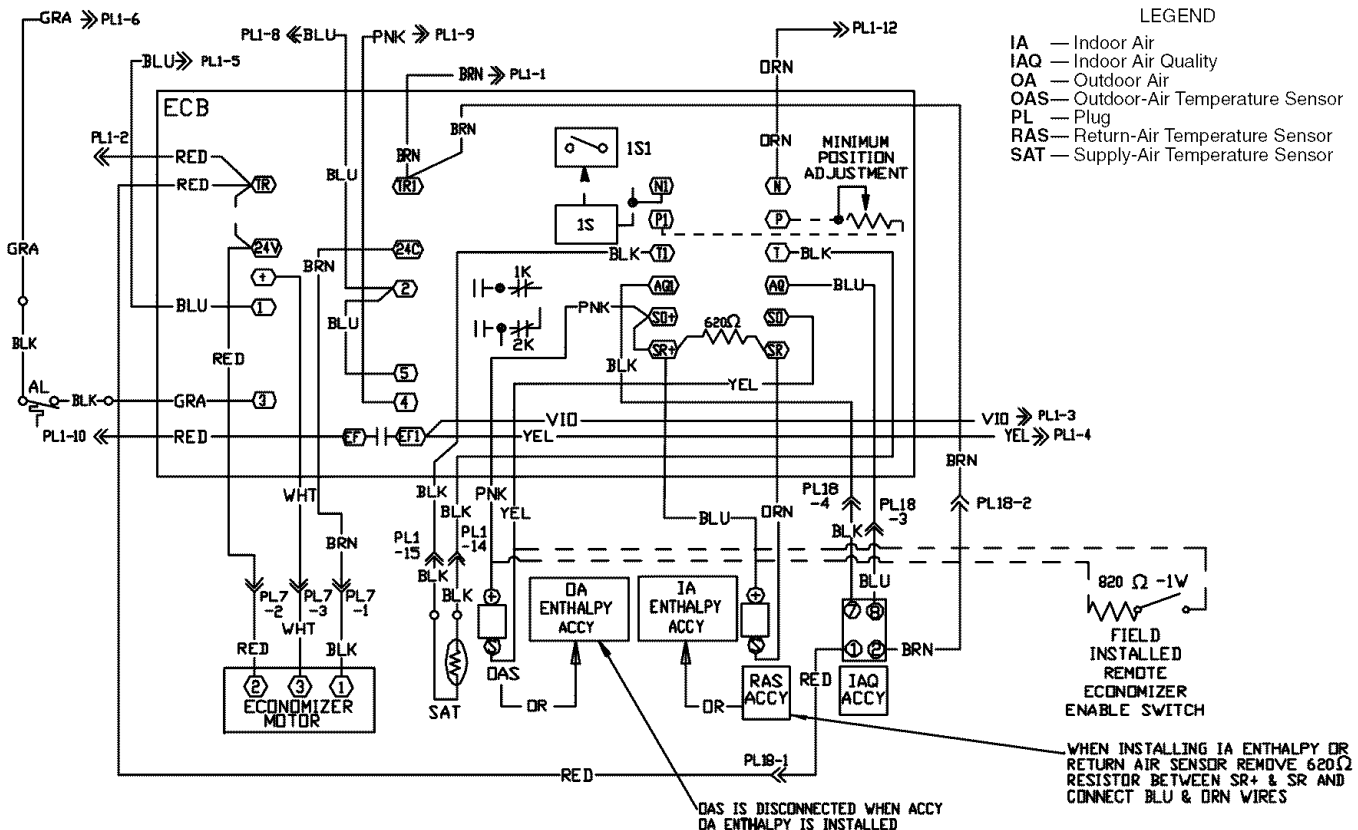
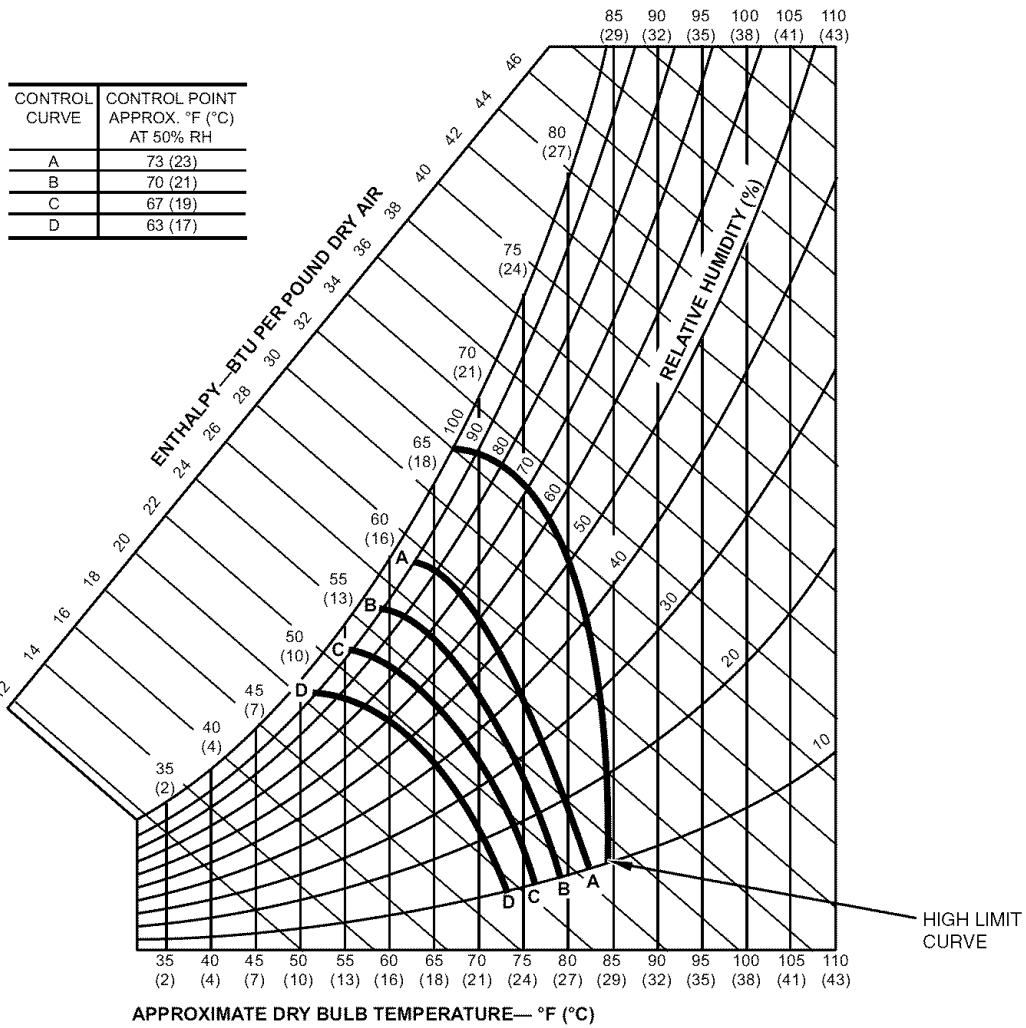
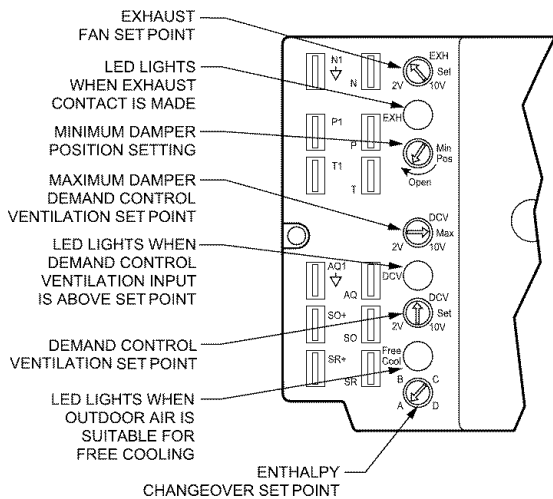

Fig. 23 — EconoMiSer IV Wiring
Fig. 24 — Enthalpy Changeover Set Points
Fig. 25 — EconMiSer IV Controller Potentiometer and LED Locations
Differential Dry Bulb Control — For differential dry bulb control the standard outdoor dry bulb sensor is used in conjunction with an additional accessory dry bulb sensor (part number CRTEMPSN002A00). The accessory sensor must be mounted in the return airstream. Wiring is provided in the EconoMiSer IV wiring harness. See Fig. 23.
Outdoor Enthalpy Changeover — For enthalpy control, accessory enthalpy sensor (part number HH57AC078) is required. Replace the standard outdoor dry bulb temperature sensor with the accessory enthalpy sensor in the same mounting location. When the outdoor air enthalpy rises above the outdoor enthalpy changeover set point, the outdoor-air damper moves to its minimum position. The outdoor enthalpy changeover set point is set with the outdoor enthalpy set point potentiometer on the EconoMiSer IV controller. The set points are A, B, C, and D. See Fig. 24. The factory-installed 620-ohm jumper must be in place across terminals SR and + on the EconoMiSer IV controller. See Fig. 23.
Replace the standard outside air dry bulb temperature sensor with the accessory enthalpy sensor in the same mounting location. Mount the return air enthalpy sensor in the return air duct. Wiring is provided in the EconoMiSer IV wiring harness. See Fig. 23. The outdoor enthalpy changeover set point is set with the outdoor enthalpy set point potentiometer on the EconoMiSer IV controller. When using this mode of changeover control, turn the enthalpy set point potentiometer fully clockwise to the D setting. See Fig. 25.
Exhaust Set Point Adjustment — The exhaust set point will determine when the exhaust fan runs based on damper position (if accessory power exhaust is installed). The set point is modified with the Exhaust Fan Set Point (EXH SET) potentiometer. See Fig. 25. The set point represents the damper position above which the exhaust fans will be turned on. When there is a call for exhaust, the EconoMiSer IV controller provides a 45 ± 15 second delay before exhaust fan activation to allow the dampers to open. This delay allows the damper to reach the appropriate position to avoid unnecessary fan overload.
Minimum Position Control — There is a minimum damper position potentiometer on the EconoMi\$er IV controller. See Fig. 25. The minimum damper position maintains the minimum airflow into the building during the occupied period.
3. Ensure that the factory-installed jumper is in place across terminals P and P1. If remote damper positioning is being used, make sure that the terminals are wired according to Fig. 23 and that the minimum position potentiometer is turned fully clockwise.
To control the minimum damper position remotely, remove the factory-installed jumper on the P and P1 terminals on the EconoMi\$er IV controller. Wire the field-supplied potentiometer to the P and P1 terminals on the EconoMi\$er IV controller. See Fig. 23.
is provided by the black jumper from terminal TR to terminal N. When unoccupied mode is desired, install a field-supplied timeclock function in place of the jumper between TR and N. See Fig. 23. When the timeclock contacts are closed, the EconoMi\$er IV control will be in occupied mode. When the timeclock contacts are open (removing the 24-v signal from terminal N), the EconoMi\$er IV will be in unoccupied mode.